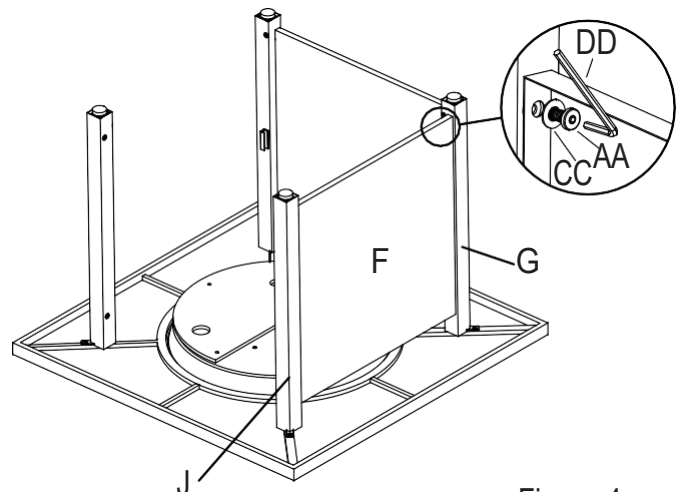

Figure 4
- Attach right panel (F) to front-right leg (G) and back-right leg (J) with bolts (AA) and washer (CC) using hex screw driver (DD), (see Figure 4).